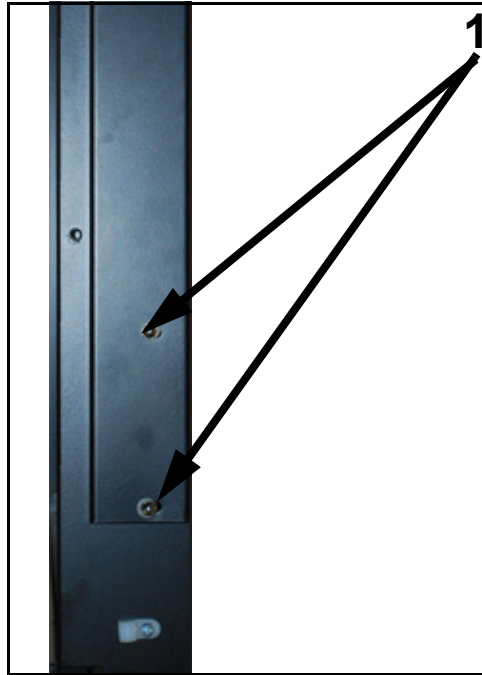

Figure 6-14. Top Cover Screws
- 2 Unscrew the two screws on terminal strip cover on PBL Bracket (1 in Figure 6-14) and remove cover (2).